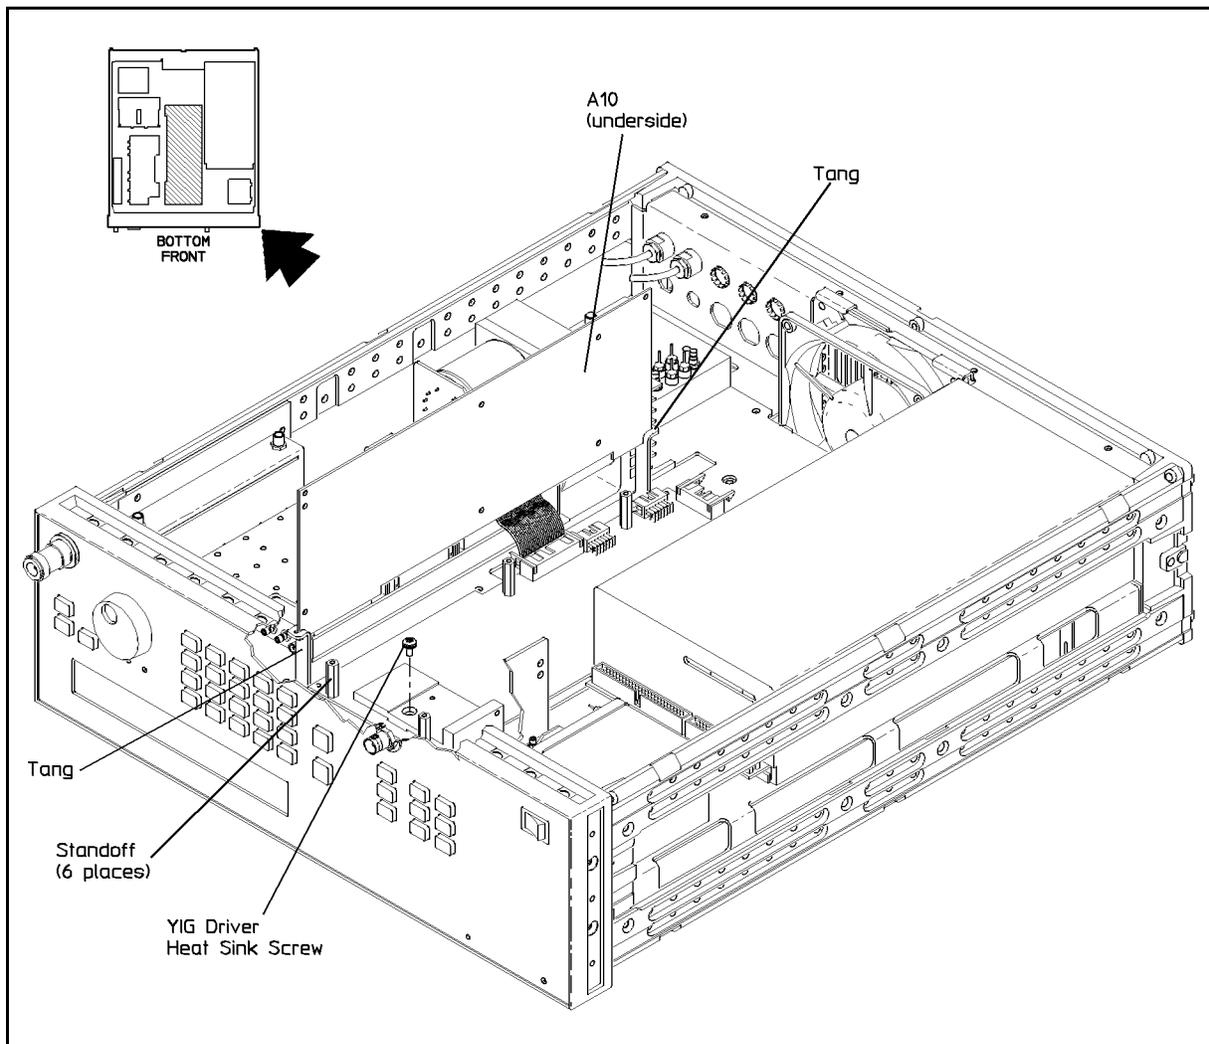

Figure 5-20. YIG Driver Board Service Position
3. Using a size 10 TORX® screwdriver, remove the six screws connecting the A10 assembly to the standoffs and the A9 assembly. See Figure 5-20.
4. Insert the ALC board assembly, A10, into the tangs on the frame as shown in Figure 5-20.
1. Using a size 10 TORX® screwdriver, remove the screw from the heat sink as shown in Figure 5-20.